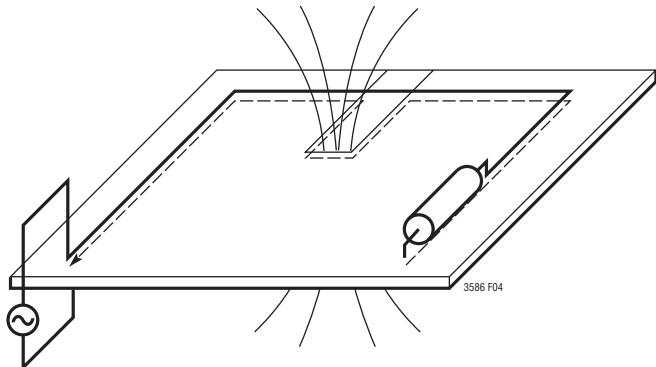

Figure 4. High Frequency Ground Currents Follow Their Incident Path. Slices in the Ground Plane Cause High Voltage and Increased EMI
- To minimize parasitic inductance, the ground plane should be as close as possible to the top plane of the PC board (Layer 2). High frequency currents in the hot loop tend to flow along a mirror path on the ground plane which is directly beneath the incident path on the top plane of the board as illustrated in Figure 4. If there are slits or cuts or drill-holes in this mirror path on the ground plane due to other traces, the current will be forced to go around the slits. When high frequency currents are not allowed to flow back through their natural least-area path, excessive voltage will